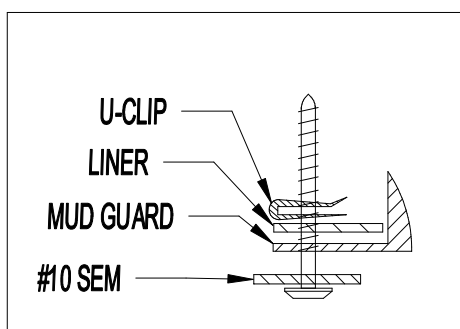

Figure 3
5. Using mud guard as a template, mark, drill 1/8 hole and install #10 SEM screw at location A, thru mud guard, fender cladding and into a u-clip on the backside of liner. The u-clip is used as a nut, DO NOT clip over liner or sheet metal (Figure 3).